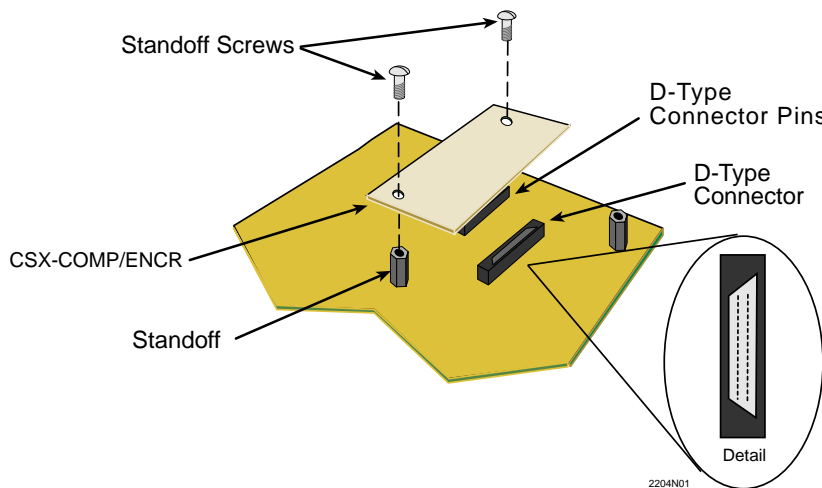

Figure 13 CSX-COMP/ENCR
4. Locate the D-Type connector and the standoffs on the HSIM-W6 (refer to **Figure 13**).